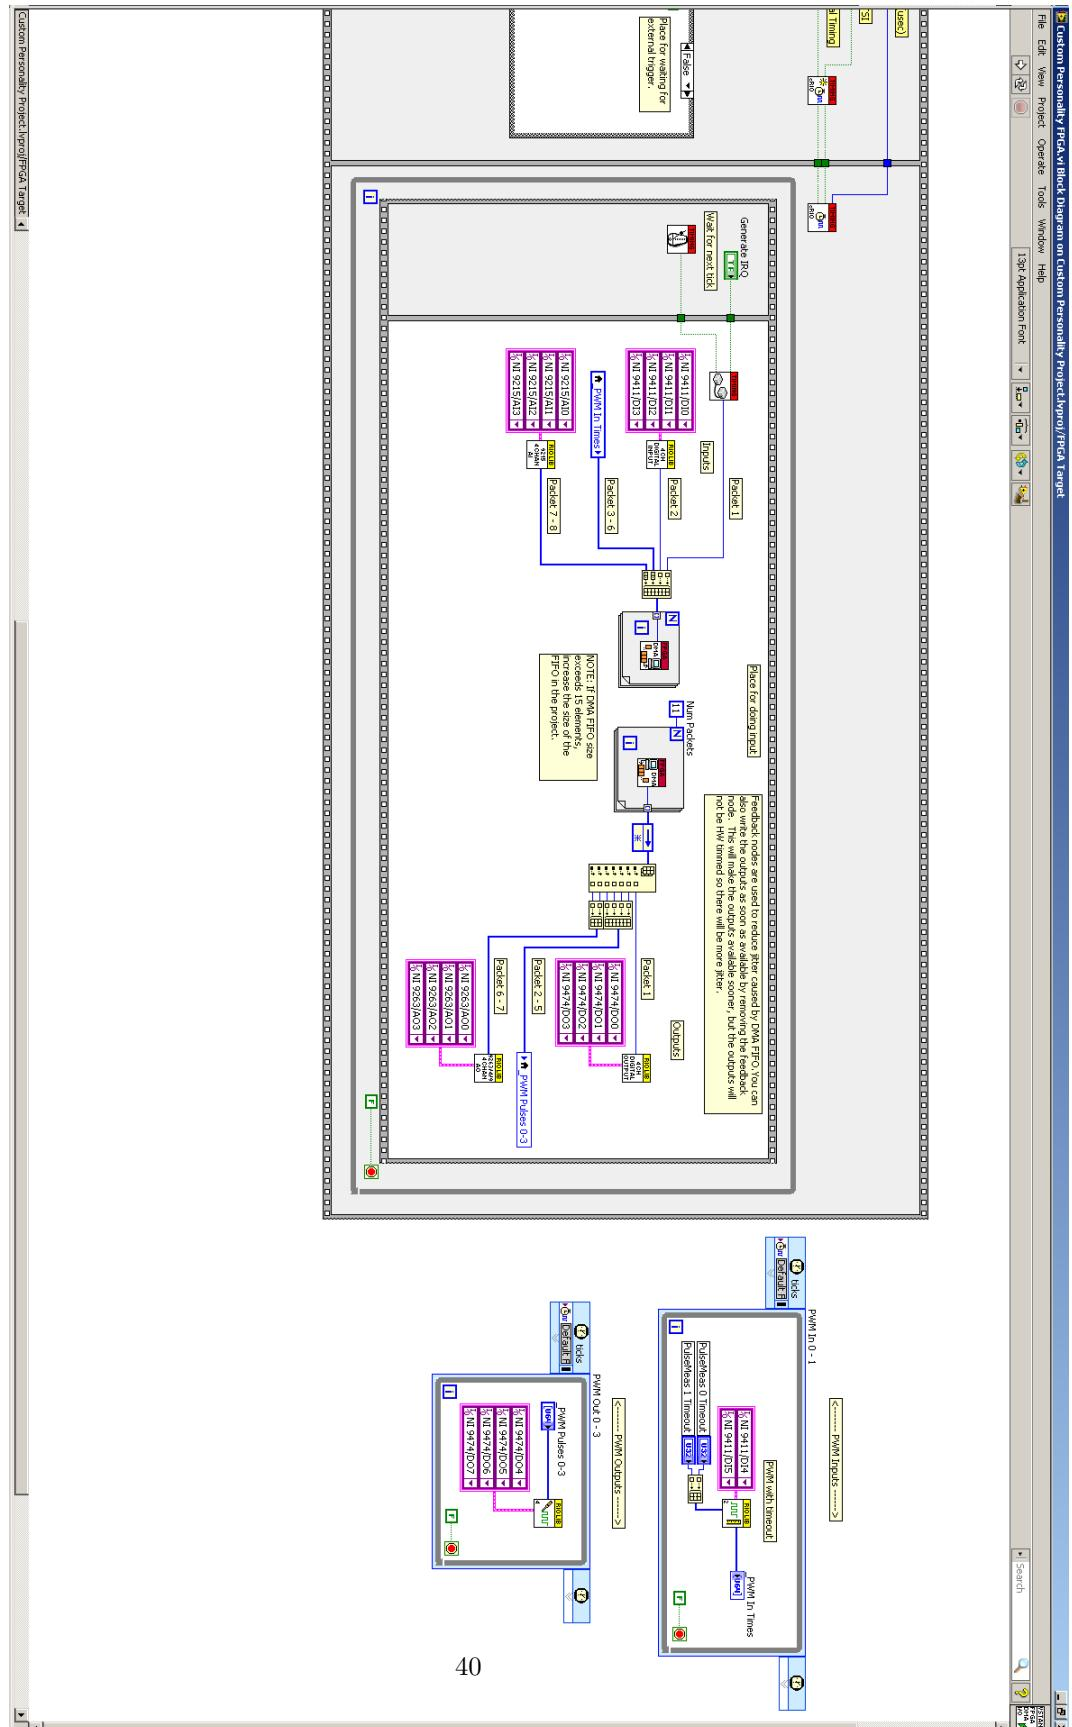
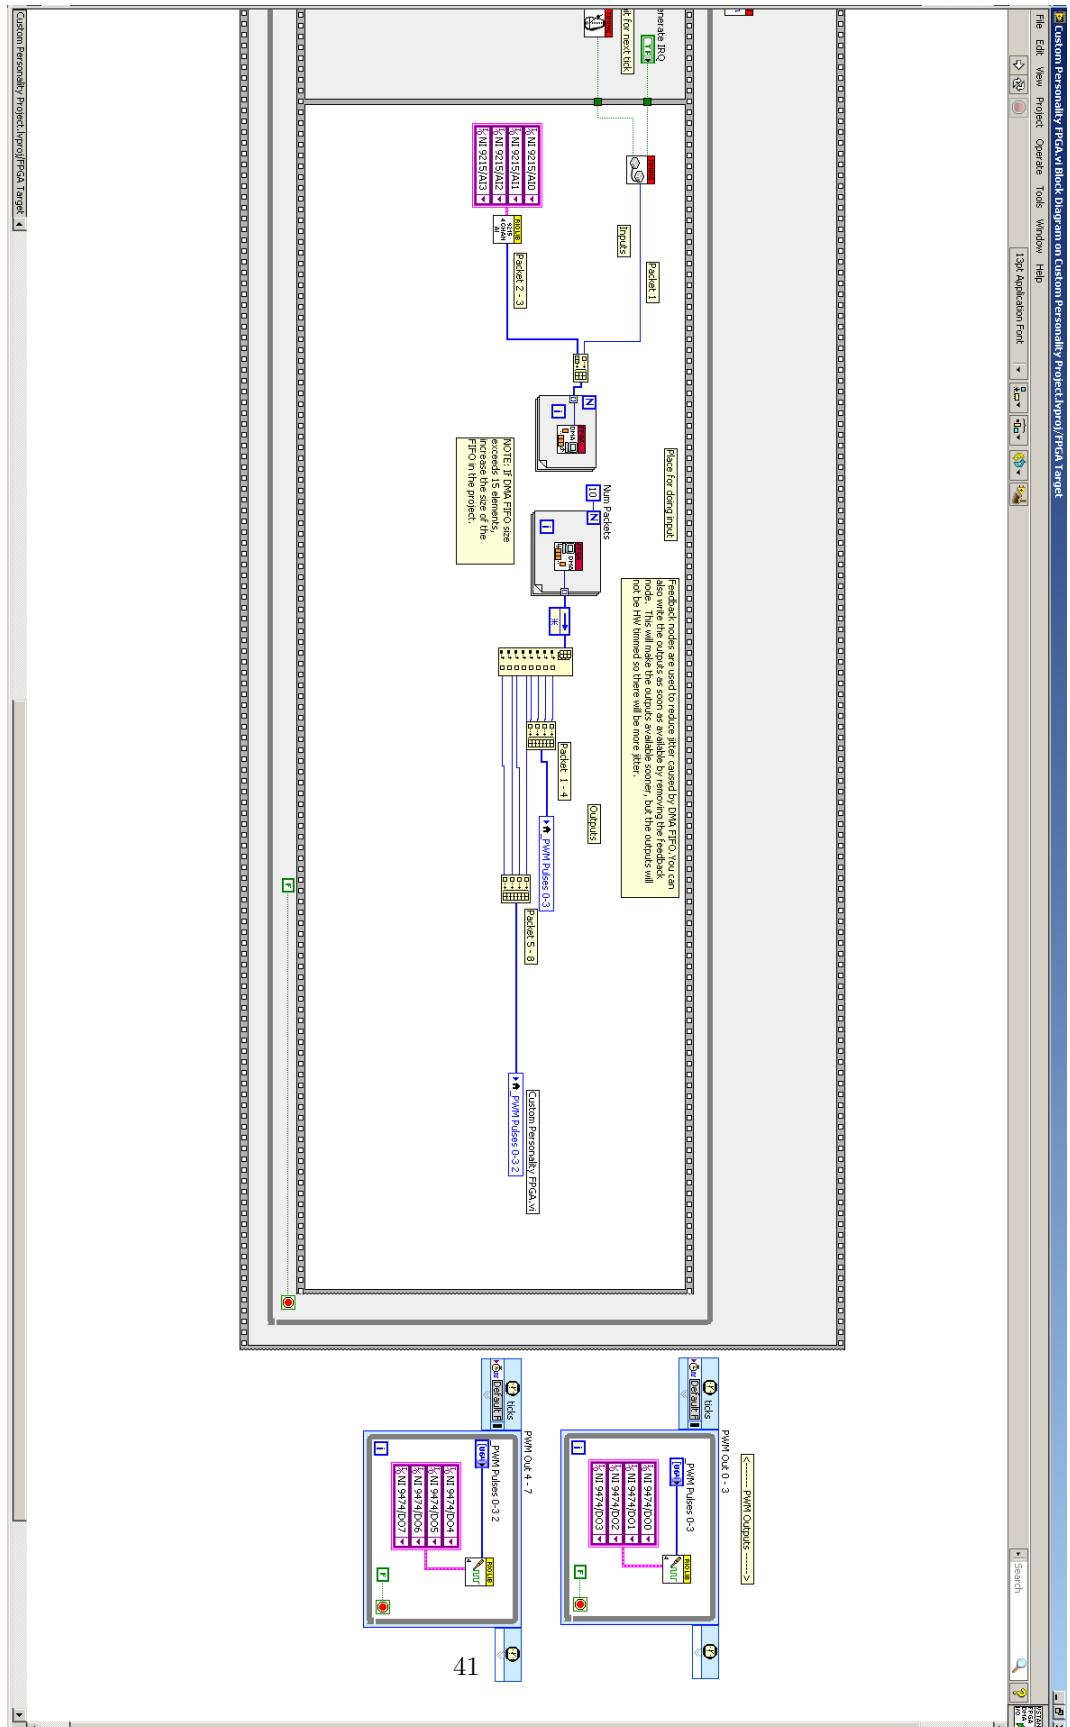

Figure 49: Create Labview FPGA target and XML - 11
Figure 50: Create Labview FPGA target and XML - 12
11. You should now see a block diagram similar to Figure 49. You will now have to redesign this to look like Figure 50. This will be valid for our system, if you have different I/O modules the block diagram need to reflect this.